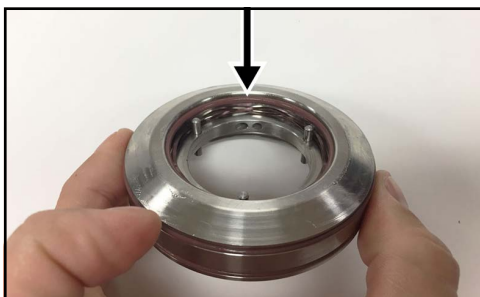

Figure 59 - Carrier-to-seal O-ring installed
2. Remove the carrier-to-seal O-ring from the product side of the seal carrier as shown in Figure 59.